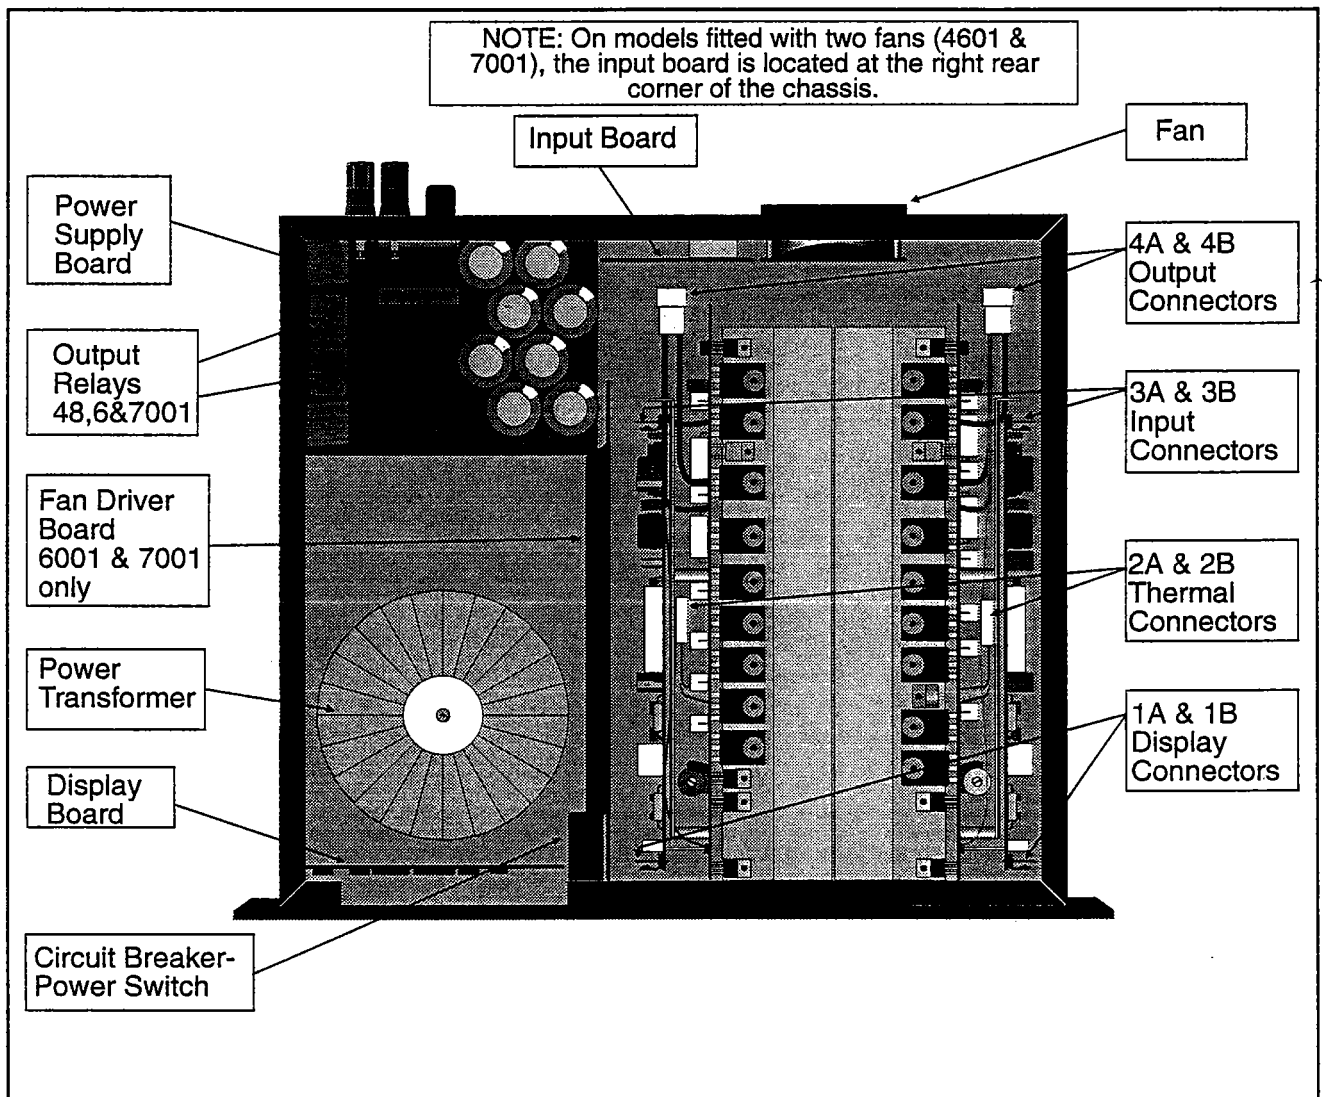

Figure 4-1. Amplifier, view with top off
#### b. Locate the output connectors (4A & 4B in Figure 4-1).
- 5 Disconnect all wiring to the modules: (See Fig. 4-1)
- 1 Disassemble the "good" module: remove the two screws which secure the preamp board to the heatsink board and separate the preamp board from the rest of the module. Place the "good" module (minus the preamp board), heatsink down, on the bench at a minimum of 6 inches to the right of the chassis, with its 17-pin header (Figure 4-1, 1A & 1B) closest to you. **NOTE: When reassembling the Output Modules, be sure that the fish-paper insulator sits between the Preamp board and the metal shield, with the washers in place, before securing the screws!**